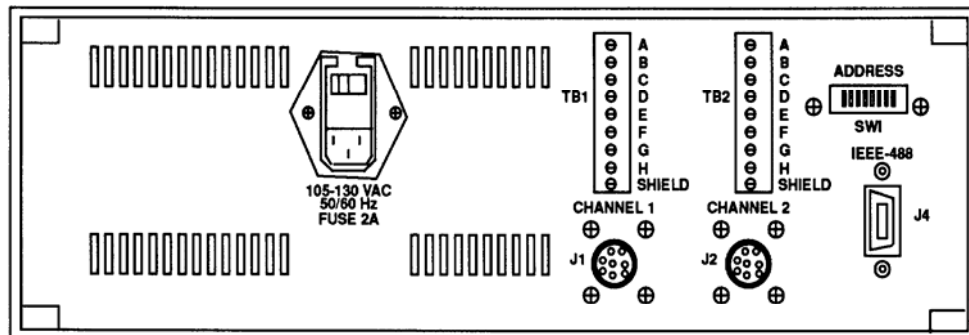

Figure 2. Force-torque readout - rear panel.
- e.** Connect the strain gage simulator to **CHANNEL 1** (J1, fig. 2) of TI and set it to 0 percent.
- h.** Connect 115 V ac power to 105-130 VAC 50/60 Hz FUSE 2A (fig. 2) power input on rear panel of TI.
- (1) With strain gage simulator set to 0 percent, set the polarity switch to the + (positive) position.
- (2) Press the **ZERO** pushbutton.
- (3) Record the displayed reading in mV/V.
- (4) Set the strain gage simulator to 10 percent.
- (5) Record the displayed reading in mV/V.
- (6) Repeat (4) and (5) above in 10 percent steps until readings have been recorded up to and to include 100 percent.
- (7) Return the strain gage simulator to 0 percent and set the polarity switch to the - (negative) position.
- (8) Repeat (2) through (6) above.
- (9) Connect the strain gage simulator to J2 (fig. 2) and set **CHANNEL** switch to select **2**.
- (10) Repeat (1) through (8) above for channel **2**.
- (11) Compare each of the displayed readings for channels **1** and **2** in mV/V to the corresponding strain gage simulator outputs recorded on the calibration chart attached to the strain gage simulator. At each point the displayed readings shall be within 0.0004 mV/V of the strain gage simulator output; if not, perform **b** below.
- (2) Activate the calibration mode by pressing the **0** key.
- (3) With menu scrolling, select **AUTO SCALE VTEST** calibration mode **6**.
- (4) Connect strain gage simulator to J1 (fig. 2) then press **E** key.
- (5) Set **CHANNEL** switch to select channel 1 then press **E** key.
- (6) Set **MODE** switch to **STATIC** then press **E** key.
- (7) Set polarity switch to + (positive) position on strain gage simulator and ensure simulator is at 100 percent.
- (8) Enter the value recorded on the strain gage simulator calibration sheet for +100 percent.
- (9) Set strain gage simulator to 0 percent then press **E** key.
- (10) When **SET SIMULATOR = 100%** is displayed, set strain gage simulator to 100 percent then press **E** key.
- (11) The readout will display the scale factor for channel 1. Press **E** key to continue.
- (12) Connect strain gage simulator to J2 (fig. 2) then press **E** key.
- (13) Set **CHANNEL** switch to select channel **2** then press **E** key.
- (14) Repeat (8) through (10) above.
- (15) The readout will display the scale factor for channel **2**. Press **E** key to continue.
- (16) Connect strain gage simulator to J1 (fig. 2) and set **CHANNEL** switch to select channel 1.
- (17) Set strain gage simulator to 0 percent then press **E** key.
- (18) Perform a (2) through (11) above and, if readings are not within specified limits, perform power supply check.